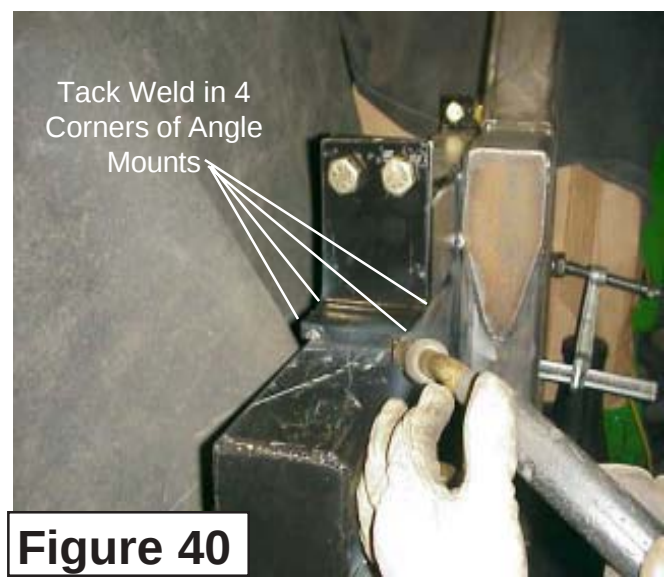

Figure 40
6. Tack Weld Front and Rear Angle Mounts. The Angle Mounts should be tack Welded to the Frame Rails in 4 places each. This works best by weld a tack Weld in each corner of Angle Mount. (See Figure 40 & 41). All 4 of the Angle Mounts must be Tack Welded to frame rail now.